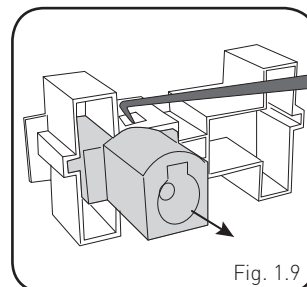

Fig. 1.9
8. Determine which USB mounting option you will be using, depending on the year, model and trim the factory USB housing may differ. On vehicles that have removable USB ports, the factory housing may be reused by swapping to the included USB port. (Fig. 1.9) On vehicles where the USB cannot be removed, use the supplied USB housing.